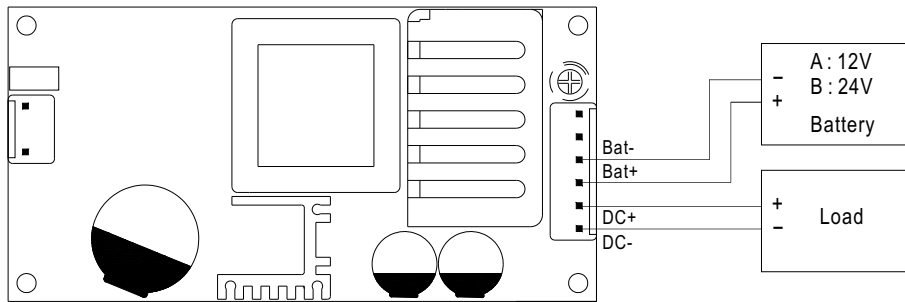

Fig 1.1 Suggested system connection
(1) Please refer to the Fig.1.1 for suggested connection.